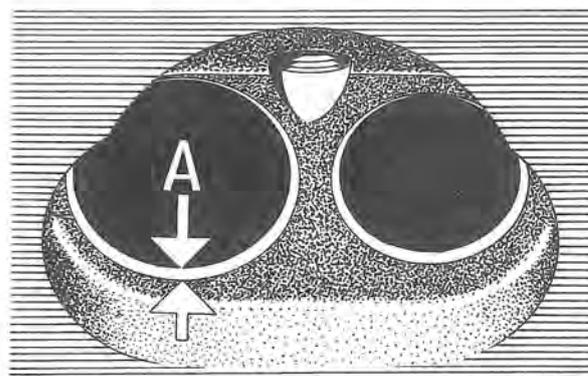

Fig. 2-20. Valve seat width A=2 mm (0.08")
2. Grind the valve seats. Use an electrically driven grinder or a hand milling cutter. A pilot spindle must be carefully fitted before work is started and any worn guides must be replaced with new ones. The seat should be ground until a good sealing surface is obtained. The angle is 45° and the width of the sealing surface is approx. 2 mm (0.08"), see "A" Fig. 2-20. If the sealing surface is too wide after grinding, it can be reduced by using a 70° grinding stone from the inside and a 20° grinding stone from the outside.